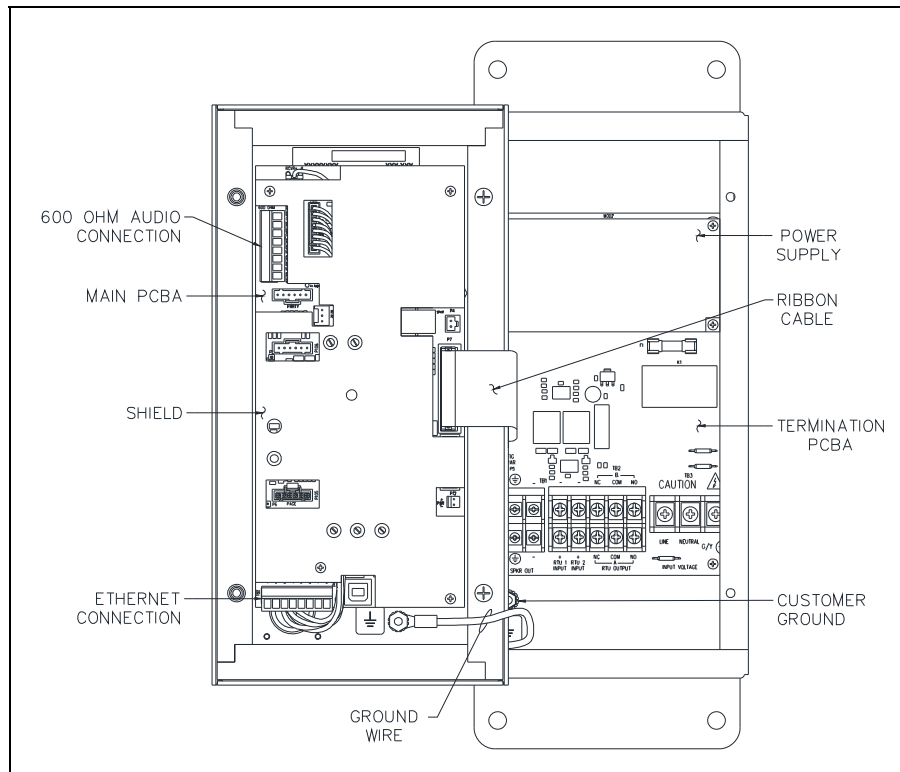

Figure 10. SP2 Station—Interior View
3. Mount the front panel to the rear enclosure using two of the screws just removed (see Figure 10).